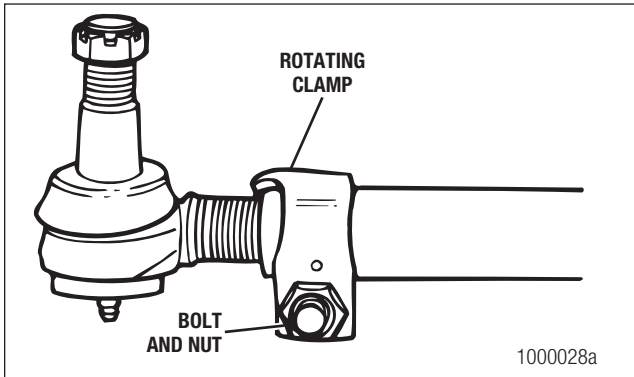

Figure 5.3
- b. Remove the bolts and the nuts from the clamp on the cross tube. The rotating style clamp on the cross tubes can be rotated for easier accessibility when removing the clamp bolt and nut. Figure 5.3.